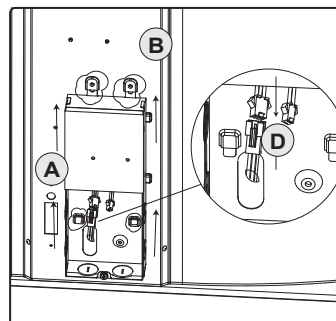

Fig 3.
1. Slip one edge of the diffuser lens (C) into the housing channel, and insert the other edge into the channel on the other side while bending a curve down the length of the diffuser lens (C). Ensure that the lens is properly seated and secure by gently pressing down on the center.
2. Remove the screw on the driver enclosure (A) and set aside the compartment cover. Locate the LED Connector (D) on the back of the fixture body (B).
3. Secure the driver enclosure (A) to the back of the fixture body (B) by aligning the four tabs into the four respective ports on the fixture body (B). Press the driver enclosure (A) in the direction shown in Fig. 3 until the box is locked into place. Make the connection between the LED connector (D) with the matching connector in the wiring compartment.